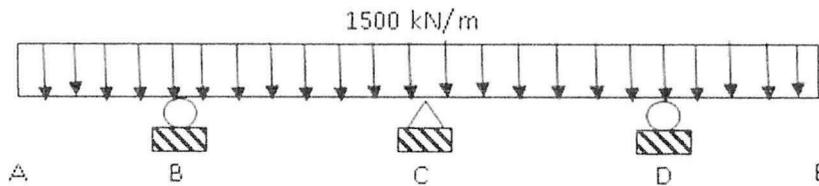

Figure Q1: Continuous Beam
**Q1.** One continuous beam which is supported by roller at B and D and fixed end support at C has uniformly distributed load 1500 kN/m along the beam as shown in **Figure Q1**. Given EI is constant.
- (b) Calculate the moment at the joints by using moment distribution method. Conduct four (4) rotations for moment distribution. (10 marks)